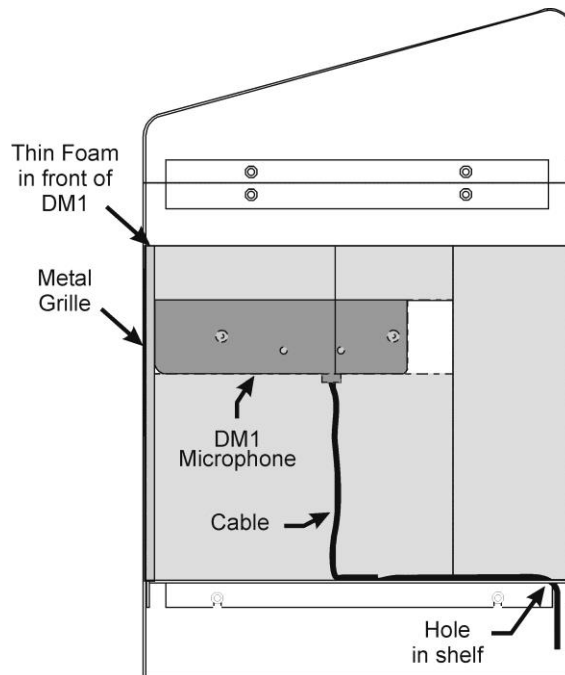

Figure 4. DM1 and foam inserts in typical SPP2 speaker post installation
- Route the DM1 cable down through the hole in the shelf as shown in Figure 4.